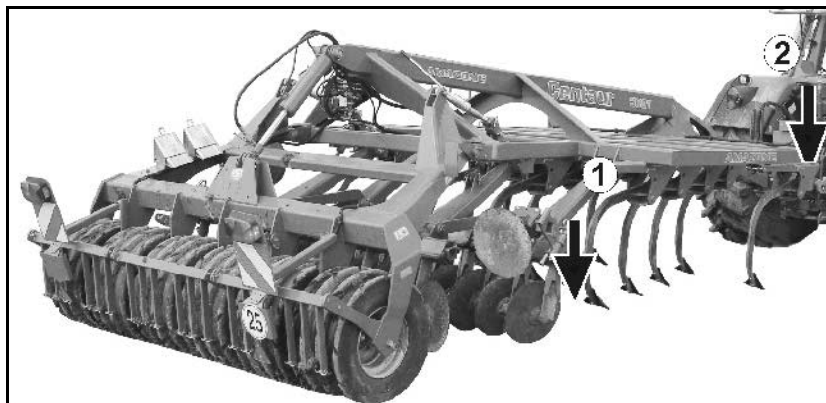

Fig. 63
- Completely lower the machine (Fig. 63/1), headland setting.
3. Lower the tractor's lower links until the frame is horizontal (Fig. 63/2).